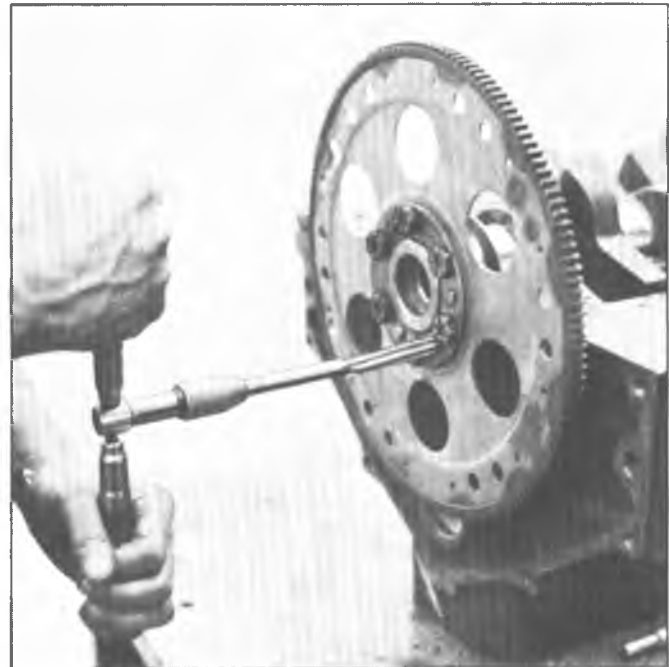

Fig. 31L—Reaming Flywheel Dowel Pin Holes
4. When installing the original flywheel, ream the dowel pin holes with Tool J-22808-2. When installing a new flywheel, first ream the dowel pin holes with Tool J-22808-2 and then finish reaming them with Tool J-22808-1 (fig. 31L).